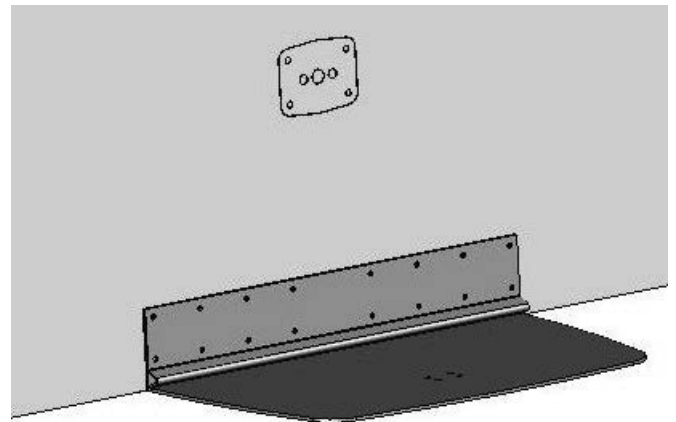

**Figure 3**
1. Each trim tab is installed as an extension of the hull. To achieve this, position the upper mount of each actuator with the trim tab on the same plane as the hull bottom. Support the trim tab assembly from below in the fully retracted position. Attach an actuator to the trim plane using the supplied 5/16-18 x 1 1/4" hex head machine screws. Tip back the upper mount such that the wires and the hydraulic ports face away from the transom. Position the assembly template over the end of the upper mount as shown in *Figure 3*. The radius on the top of the uprights should nest fully into the assembly template. This will temporarily locate the position of the upper mount.